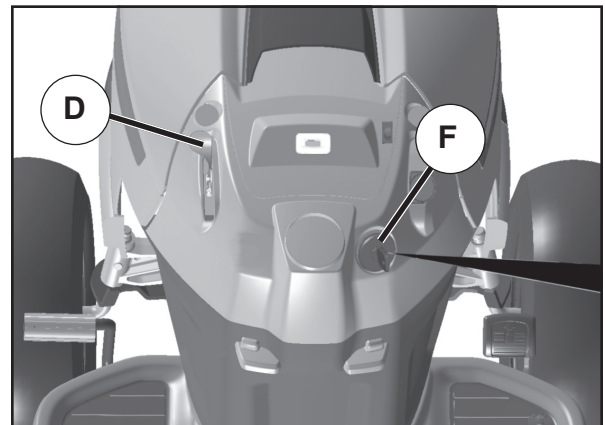

Fig. 19
- Move throttle control (D) between half and full speed (fast) position.
- Turn ignition key (F) to "STOP" position and remove key. Always remove key when leaving tractor to prevent unauthorized use.
### TO USE THROTTLE CONTROL (D) (See Fig. 19)